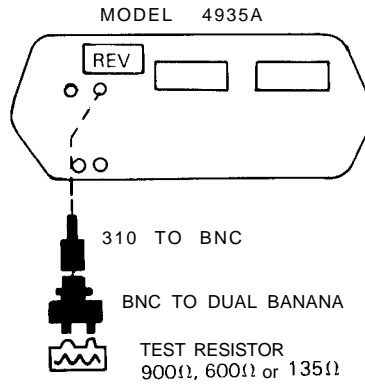

Figure 4-8. Termination Impedance Test
2. Connect equipment as shown in Figure 4-8.